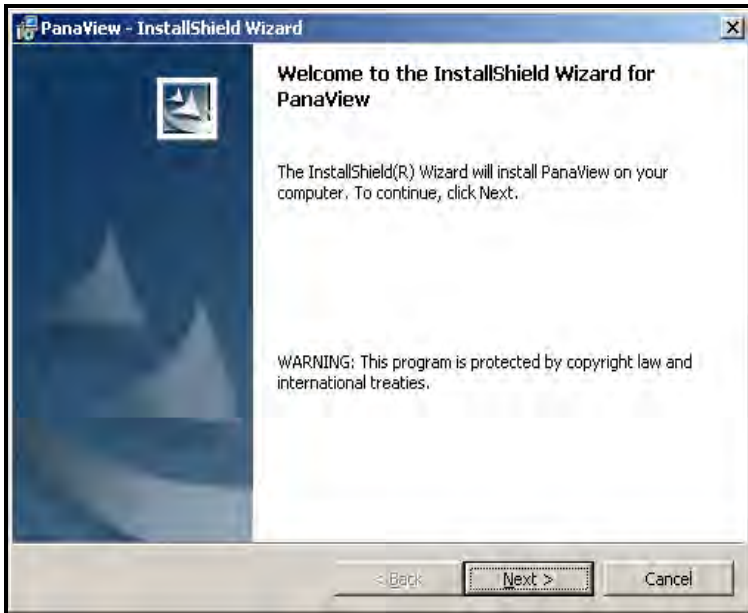

Figure 2: Welcome Screen
2. Figure 2 below shows the first screen that appears, with three buttons available. Click on: